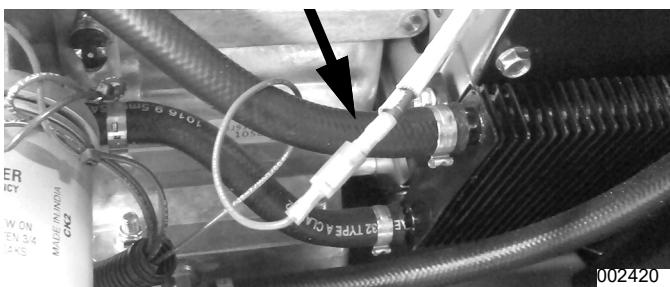

Figure 3-80. Wire 18 Connection
3. See Figure 3-80. Back probe one meter test lead to Wire 18 harness connector. Do not disconnect this wire. Connect the other meter test lead to engine ground.